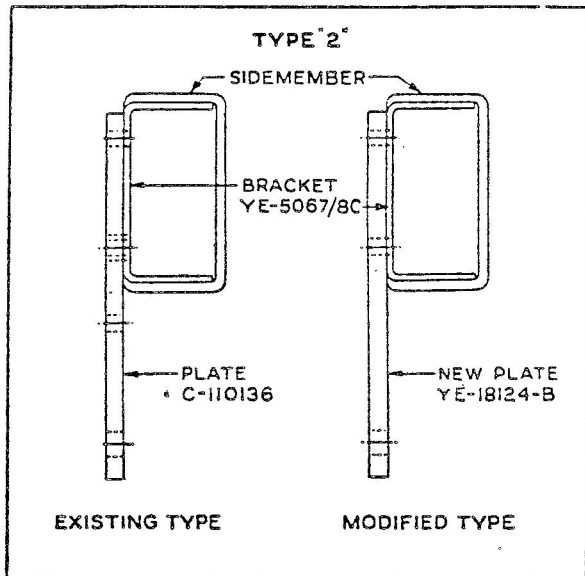

FIG. 12.
**Type 2:** On vehicles after the approximate engine number Y-103753 in June, 1935, it will be necessary to fit the new plate YE-18124-B on both right and left-hand (see Figure 11). Identification is by means of the rear shock absorber bracket YE-5067-8-C, as shown in Figure 12.